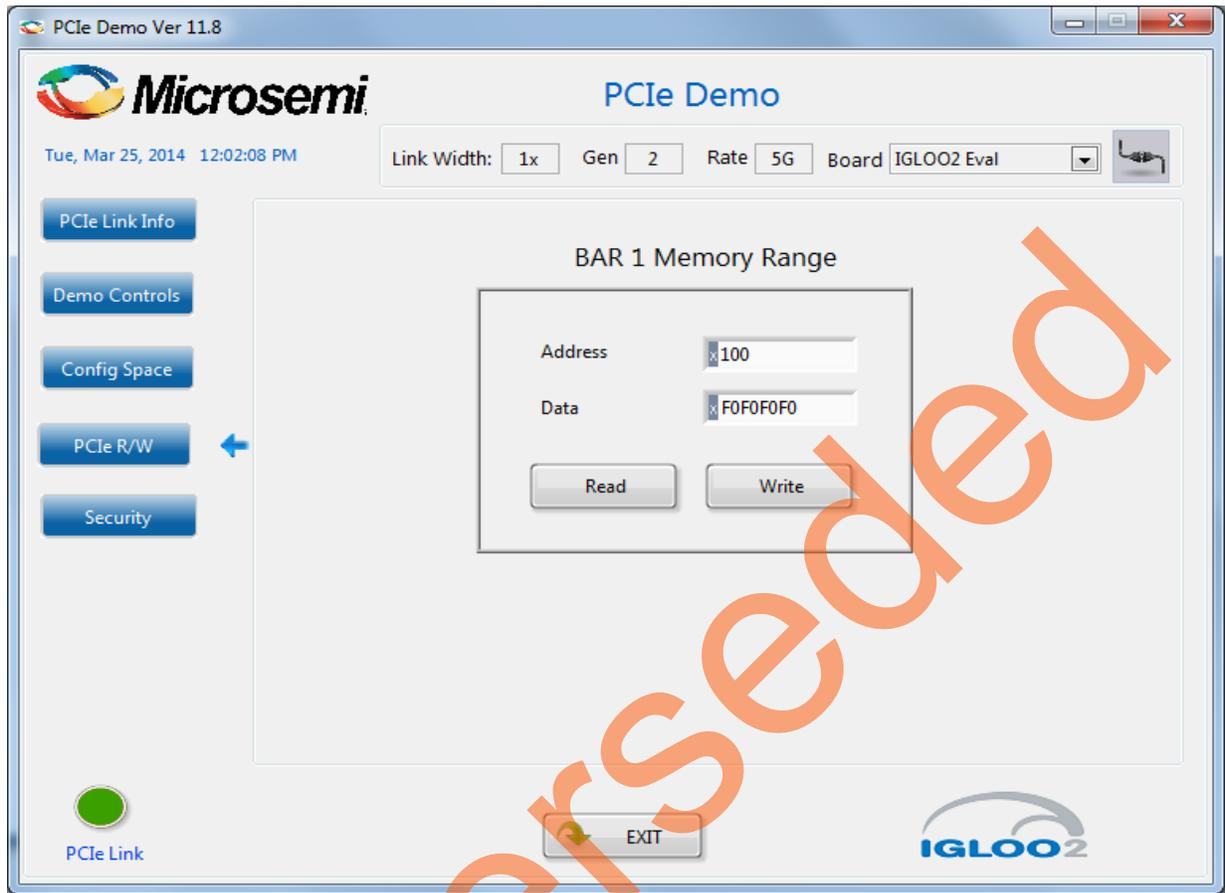

Figure 23 • Perform Read and Write to LSRAM Using PCIe
13. Click **PCIe R/W** to perform read and writes to LSRAM memory through **BAR1** space. Figure 23 shows the PCIe R/W window. Enter **Address** between 0x0000 to 0x7FFC.